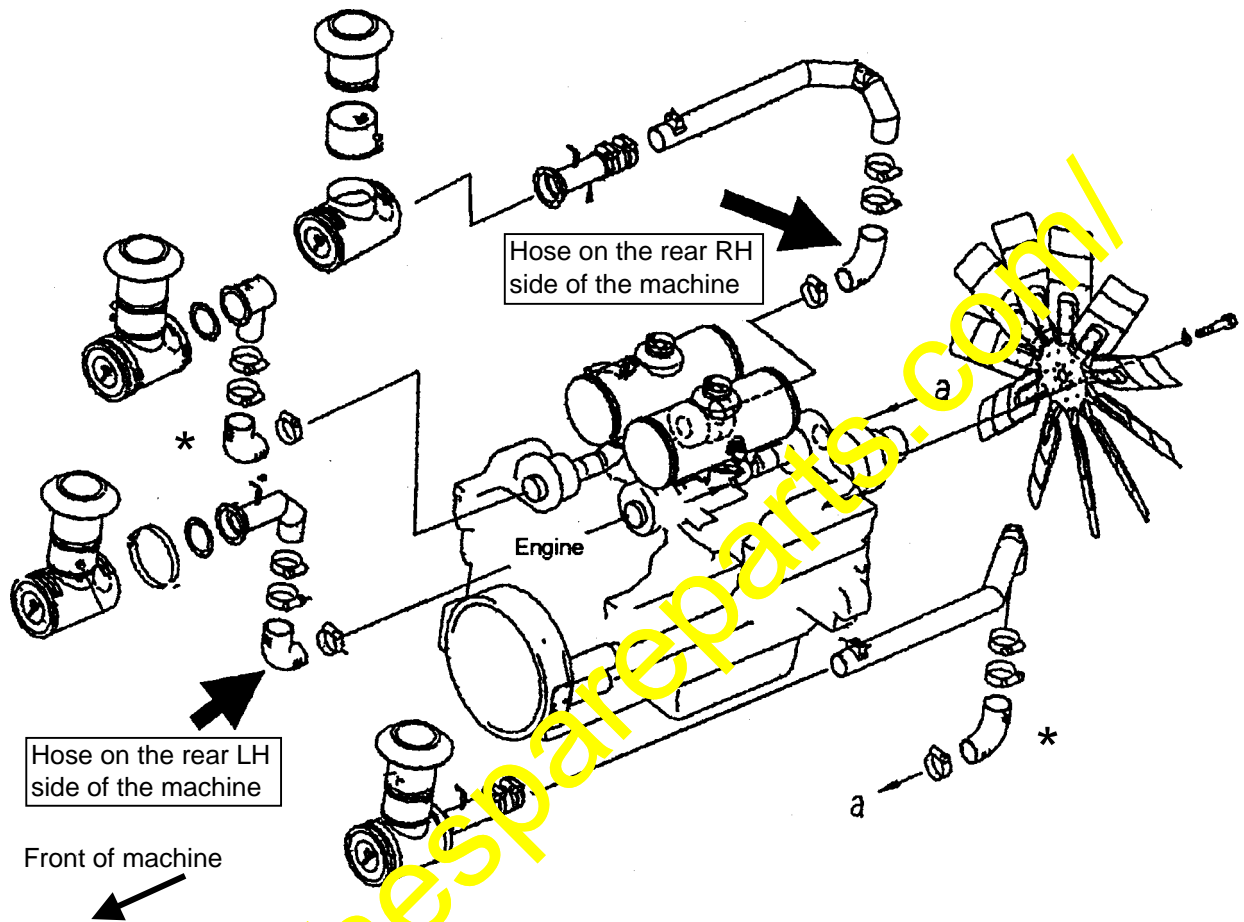

Fig. 1
- (1) Install the heat shield to protect the air intake hoses at 2 places with arrow marks in Fig. 1.